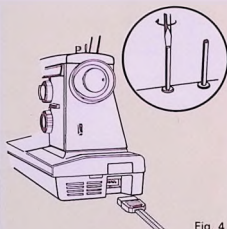

Fig. 4
3. Push the speed control plug onto three-prong connector. Plug machine cord into any 110-120 volt wall outlet. Turn on power by pushing light and power switch. (Fig. 4)